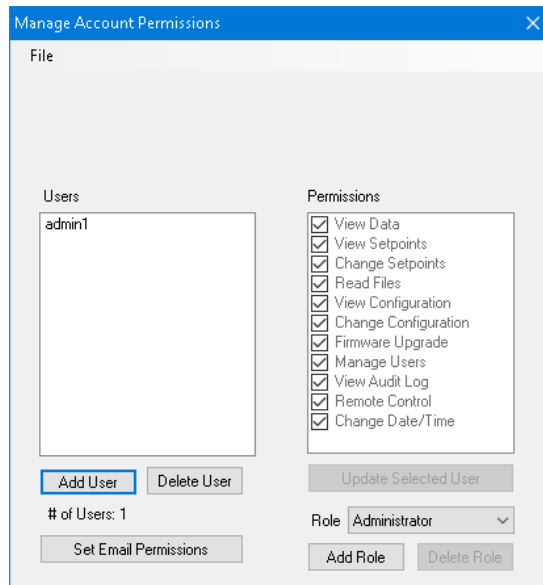

Figure 3-9 Manage Account Permissions Screen
1. Start IPSCom, select **Utility/Cybersecurity/Manage Accounts/Manage Account Permissions** from the IPSCom tool bar. IPSCom will display a "Manage Account Permissions" screen (Figure 3-9).
2. Select **Utility/Cybersecurity/Manage Accounts/Manage Account Permissions** from the IPScom tool bar. IPScom will display a "Manage Account Permissions" screen (Figure 3-9).
When the S-7600 IPScom is installed on the host PC, a Role file is created that contains the default Roles. Changes to existing Roles and creation of new Roles are captured in this file. However, Roles created on other IPScom PC installations may have different permissions for the same Role name. Adding and deleting "Roles" is accomplished from the "Manage Account Permissions" screen (Figure 3-9).